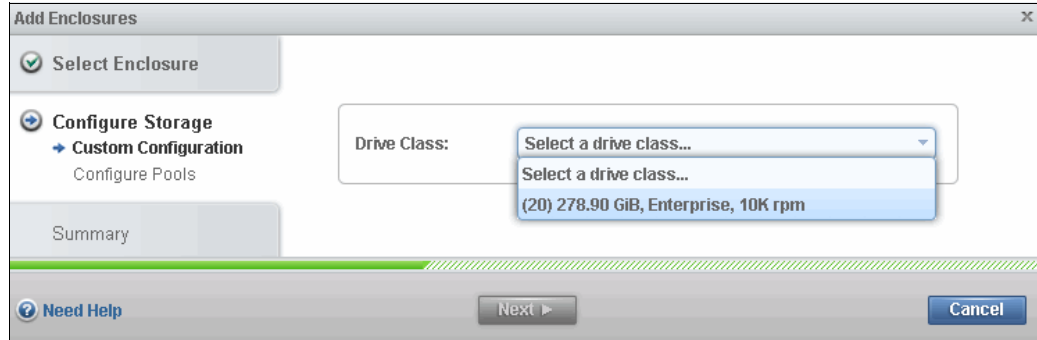
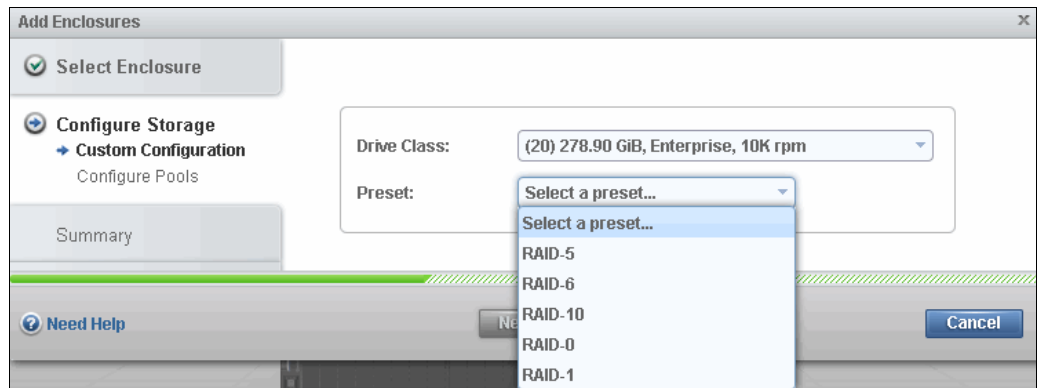

Figure 2-37 Select a drive class
Figure 2-38 Internal storage preset selection
If you choose **Automatic** configuration, the system automatically configures the storage into optimal arrays for use as MDisks. If you choose **Custom Configuration**, the wizard offers a more flexible way to configure the new storage, as shown in Figure 2-37 and Figure 2-38.
6. As shown in Figure 2-37, select the class of the drivers that you want to include in the RAID arrays and click **Next**.
7. Next, select the level of the disk RAID and click **Next**. As shown in Figure 2-38.